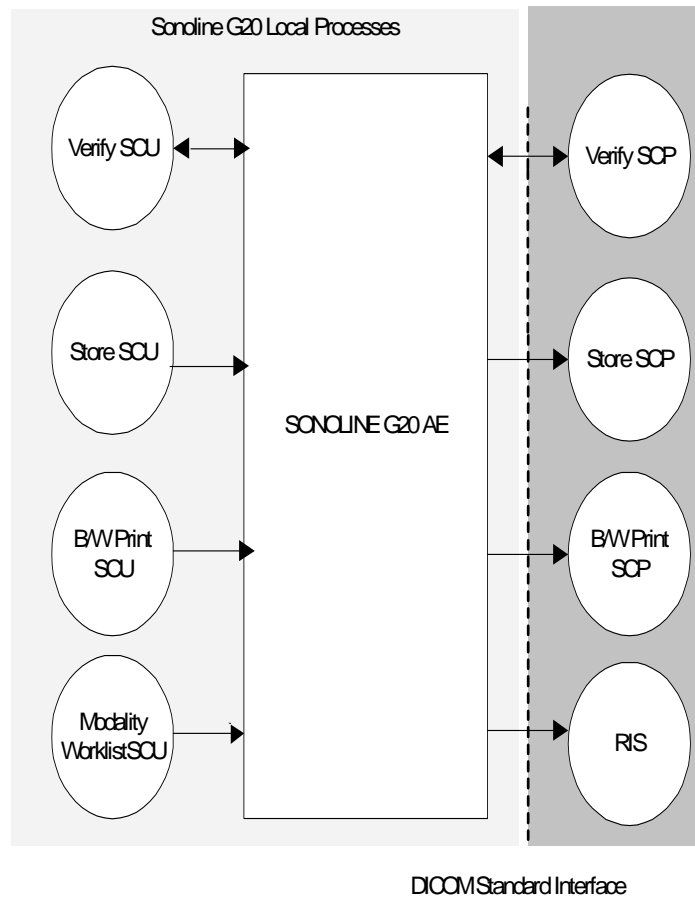

Figure 1 Implementation Model.
Figure 1 illustrates the SONOLINE G20 system's Application Entity (AE), which is shown in the box. Relationships between users invoked activities (in the circles at the left of the AE) and the associated real-world activities provided by DICOM service providers (in the circles on the right side of the diagram) are shown.